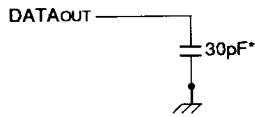

Figure 1. Output Load
Output Load	See Figures 1, 2 & 3
1. Transition is measured ±500mV from low or high impedance voltage with load (Figures 1, 2 and 3).